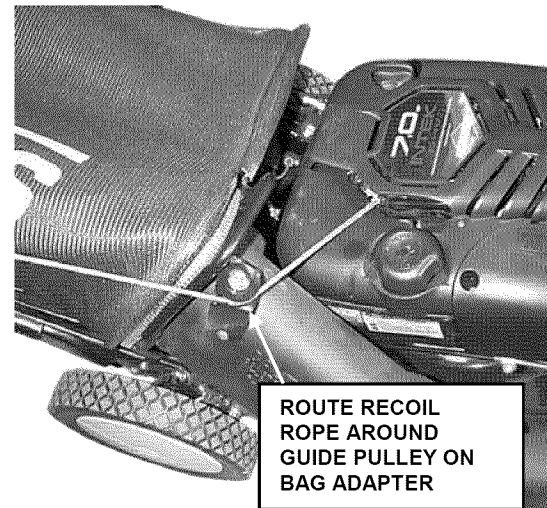

FIGURE 16
STEP 3: Route recoil rope around guide pulley on top of bag adapter. See Figure 16.